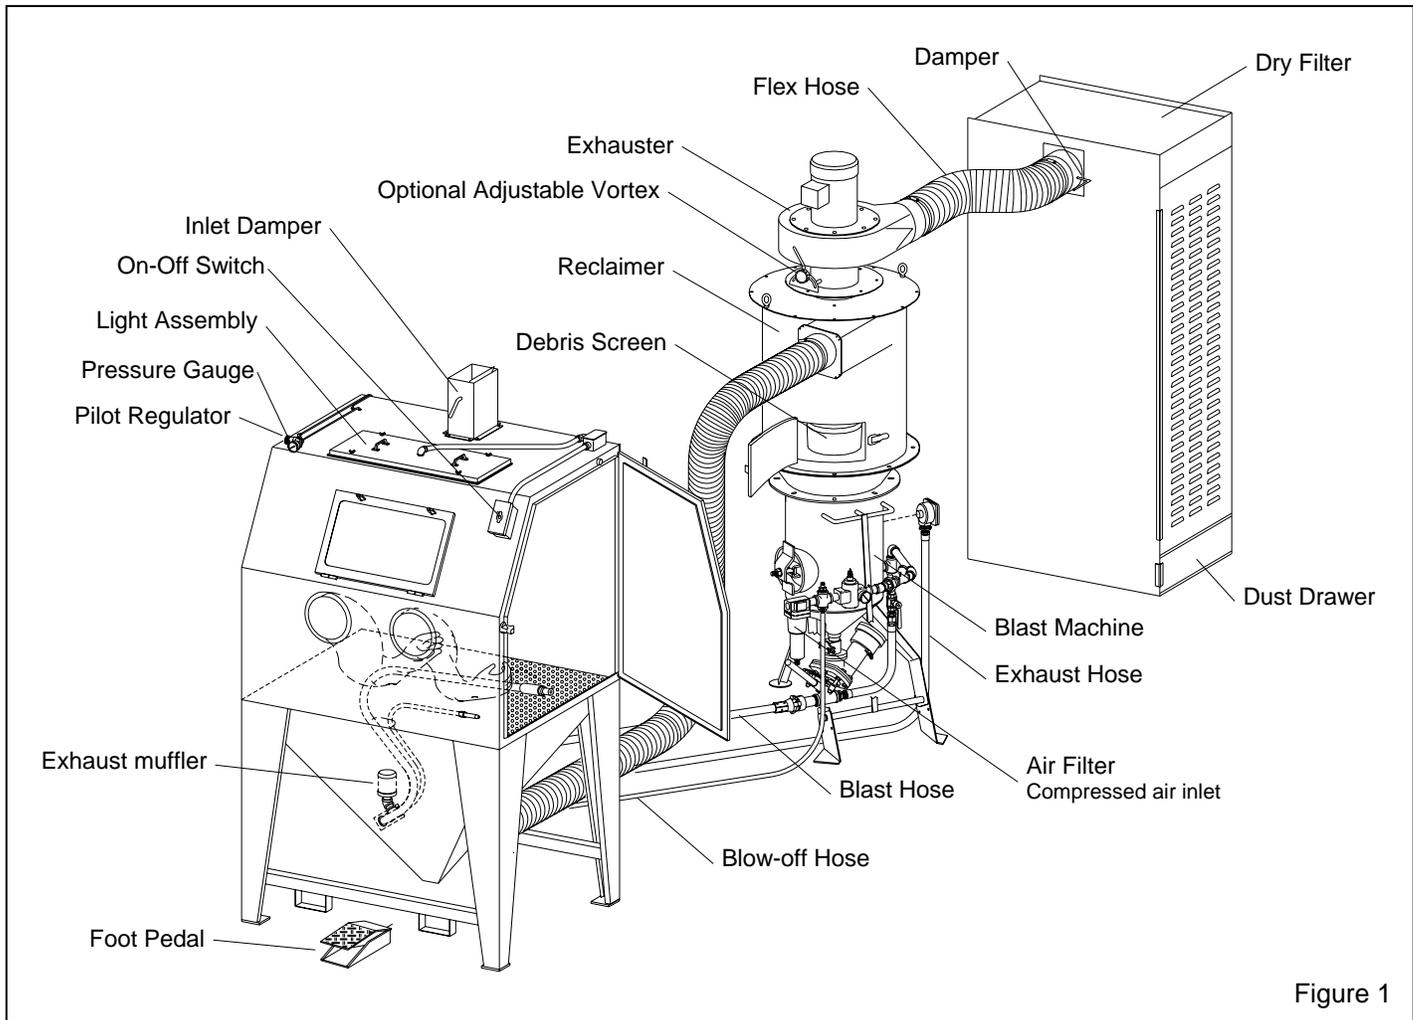
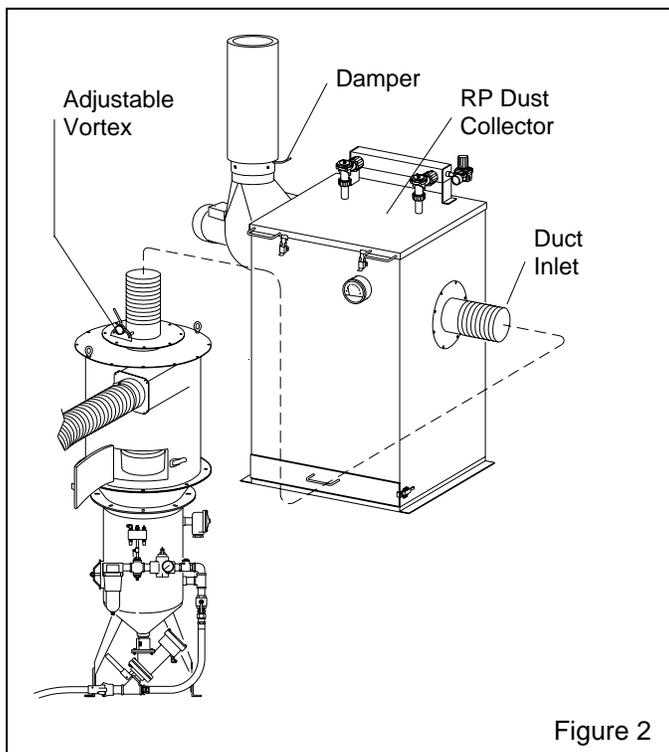
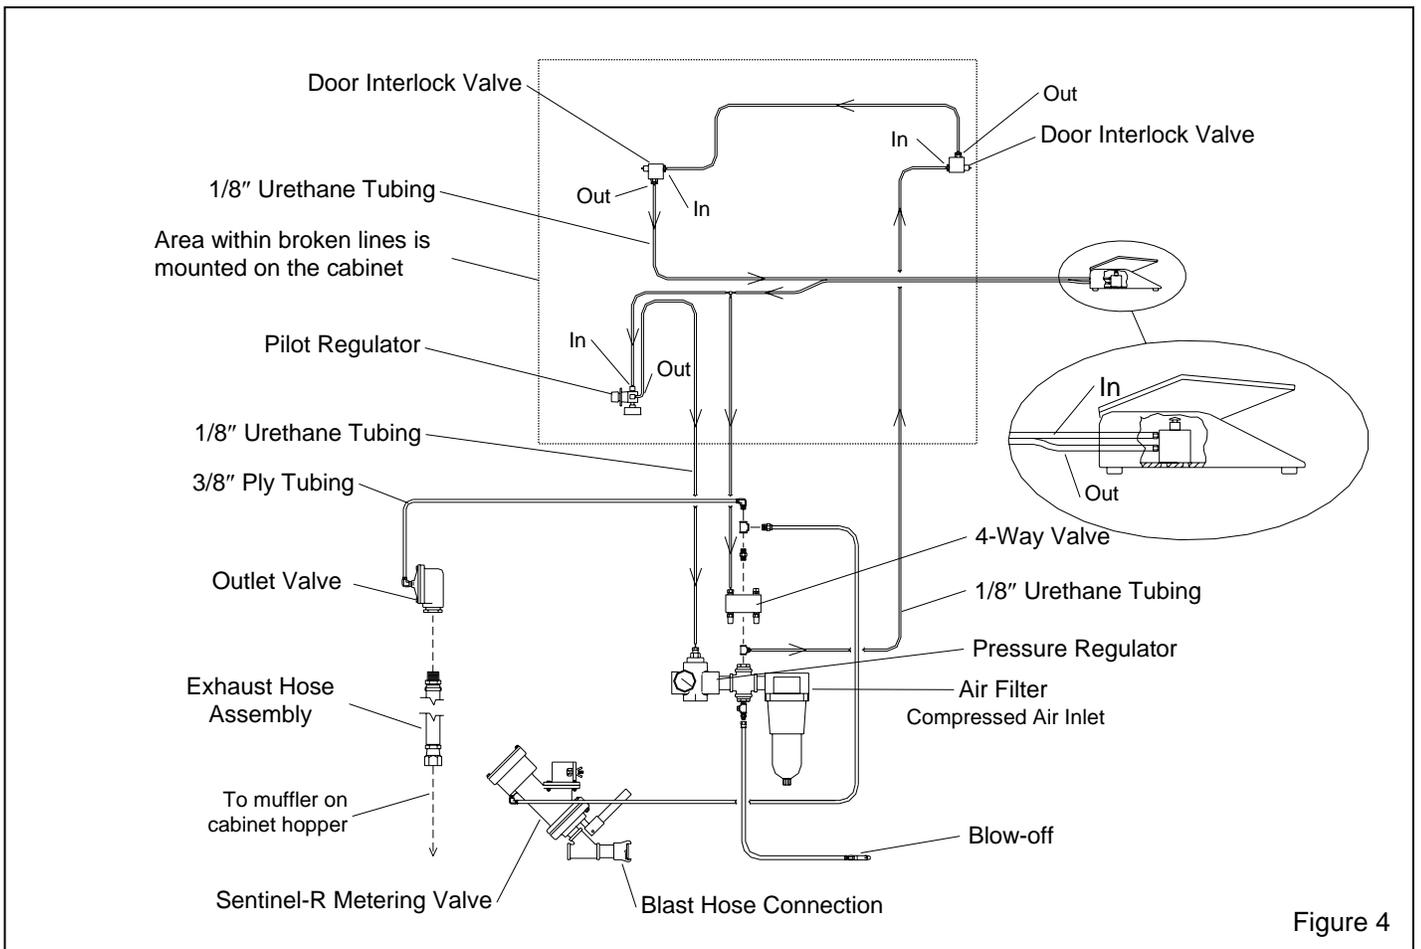

Figure 1
Figure 2
Figure 4
See Figure 1 for arrangement of components with a dry filter. Figure 2 shows the arrangement with a reverse-pulse dust collector.
2.1.1 See Figure 1 (and Figure 2 for optional reverse-pulse collector) for the general arrangement and Figure 4 for the control line schematic. Select a location where compressed air and electrical service are available. The cabinet location must comply with OSHA and local safety codes. Allow for full access to all doors and service areas, and for efficient handling of large parts. Provide enough clearance in front of the dust collector to remove the dust drawer without tipping. Ideally, locate the blast machine directly behind the cabinet with the blast hose connection toward the cabinet. The reclaimer may be rotated on the blast machine to enable hose connections with as few bends as possible. Determine the best location, and position all units before final assembly.
2.5.1 Attach the 1/2" blow-off hose coming from the cabinet hopper, to the compatible fitting between the air filter and regulator. See the schematic in Figure 4.
2.8.1 Uncoil the 1/8" urethane control tubing. The end of each tubing is numbered 1, 2 or 3. Connect the tubing to the adaptor with the corresponding number on the pressure regulator, piping, and 4-way air valve. Check the schematic in Figure 4 to confirm the connections.